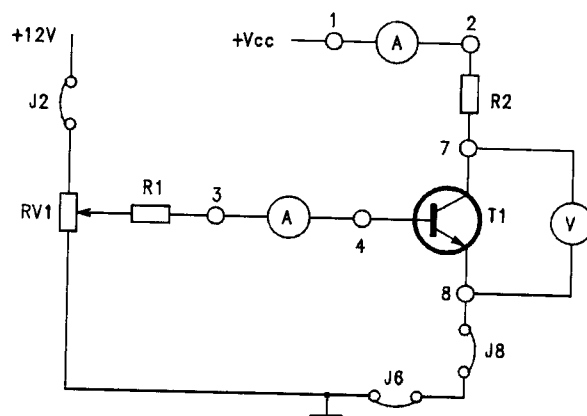

Fig.B18.10
- Produce the circuit of fig.B18.10, connecting the jumpers J2, J6, J8 and the meters. The voltage measurement can be made with the oscilloscope